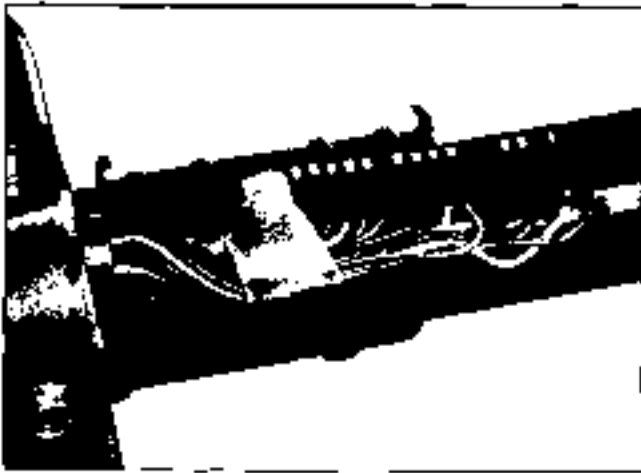

Fig. 9-5 Connector and Wires with Tape
8. Pull the turn signal wiring connector out of the bracket on the jacket and disconnect. Wrap a piece of tape around the upper part of the connector and wires to prevent snagging when removing switch (Fig. 9-5).